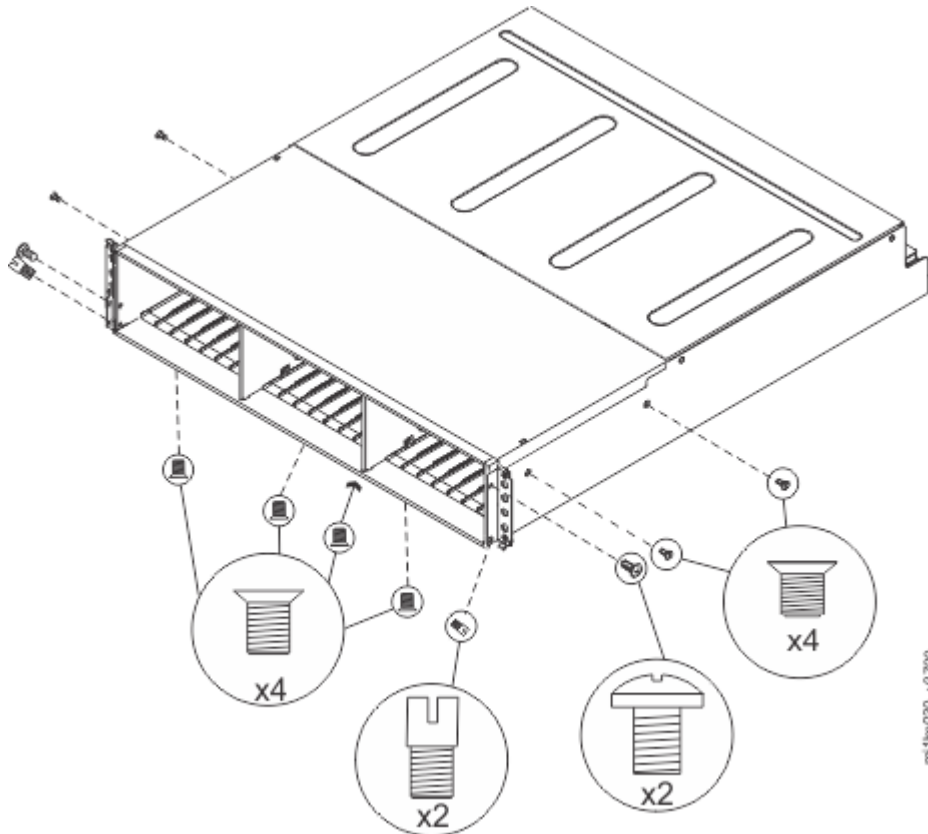

Figure 84. Removing the screws of an expansion enclosure assembly
12. Remove the four screws from the bottom of the enclosure (see Figure 84 on page 147). Remove the three screws that are near the front and the screw that is near the middle. Label these screws to indicate the location from which they are removed and place them aside.
14. Remove the three screws and one screw-pin on the right side that secure the midplane assembly to the enclosure (see Figure 84 on page 147). Label the screws to indicate the location from which they are removed and place them aside.
15. Remove the three screws and one screw-pin on the left side that secure the midplane assembly to the enclosure (see Figure 84 on page 147). Label the screws to indicate the location from which they are removed and place them aside. See Figure 4.